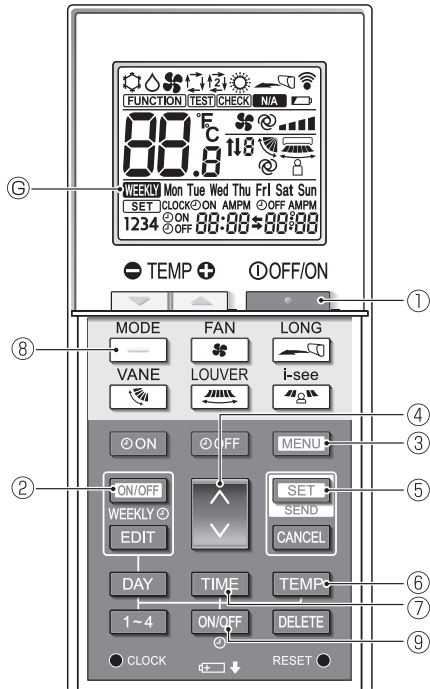
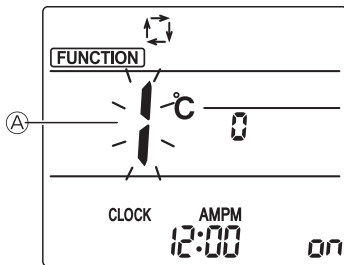
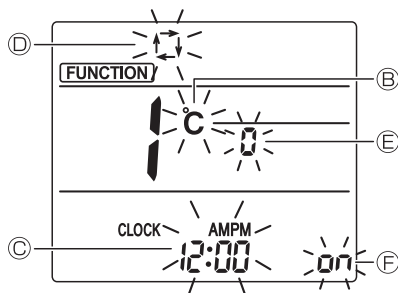

Fig. 3-1
Fig. 3-2
Fig. 3-3
1. Switching to the initial setting mode (Fig. 3-1, Fig. 3-2)
- Press the **STOP** button (1) to stop the air conditioner.
- If the weekly timer is enabled, press the **ON/OFF WEEKLY** button (2) to disable the timer. (**WEEKLY** (C) disappears.)
- Press the **MENU** button (3).
- The Function setting screen will be displayed and the function No. (A) will blink.
- Press the **DOWN** button (4) to change the function No.
- Check that function No. "1" is displayed, and then press the **SET** button (5).
2. Changing the temperature unit (Fig. 3-1, Fig. 3-3 (B))
- Press the **TEMP** button (6).
- Pressing the **TEMP** button (6) changes the temperature unit (°C / °F). (The factory setting is "°C".)
3. Changing the time display (Fig. 3-1, Fig.3-3 (C))
- Press the **TIME** button (7).
- Pressing the **TIME** button (7) changes the time display (^{AMPM} 12:00 / 24:00). (The factory setting is "12-hour format".)
4. Changing the AUTO mode (Fig. 3-1, Fig.3-3 (D))
- Press the **AUTO** button (8).
- Pressing the **AUTO** button (8) changes the Auto mode ( / ). (The factory setting is "Single set point".)
5. Changing the pair No. (Fig. 3-1, Fig.3-3 (E))